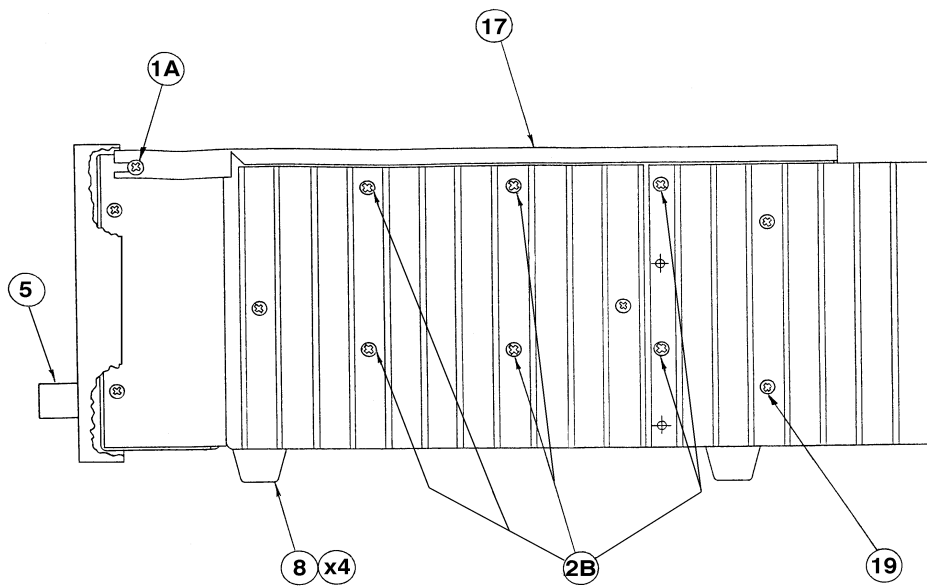

Figure 2. 1801 Side View
3.3 Remove the six screws (2B) located on the side of the unit between the heat sink fins (see Figure 2).